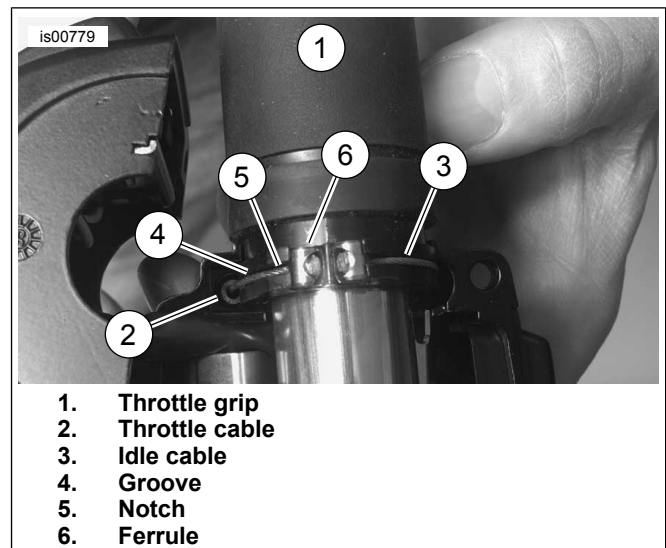

Figure 12. Throttle / Idle Cable Connections in Grip
5. See Figure 12. Slide throttle control grip (1) over end of right handlebar until it bottoms against the closed end. Rotate grip so that ferrule notches (6) are at top.
6. Position lower switch housing beneath throttle control grip. Place a brass ferrule onto throttle (2) and idle (3) cables so that end fittings seat in ferrule (6) recess. Seat ferrules in their respective notches (5) on throttle control grip (1). Verify that cables are captured in grooves (4) molded into grip.